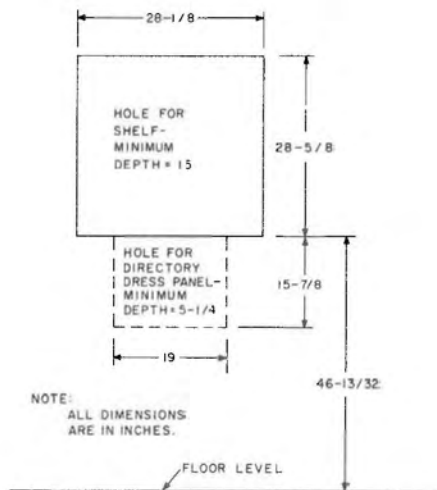

Fig. 7—Layout for Cutting Hole in Wall
- (c) If a KS-20194, List 10 directory dress panel is required, cut a hole in wall below the shelf cutout to accommodate this panel. Refer to Fig. 7 for dimensions. Minimum depth shall be 5-1/4 inches.